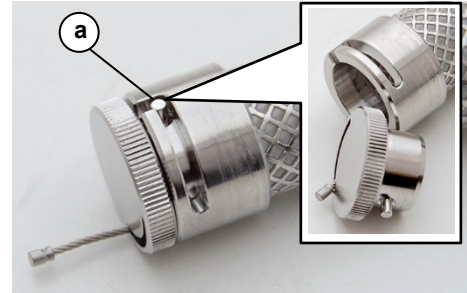

Fig. 36: Cleanfinity Filter opened
1. Turn the bayonet lock of the sealing cap anti-clockwise until the stop (Fig. 36, pos. a). Remove the sealing element from the Cleanfinity Filter.